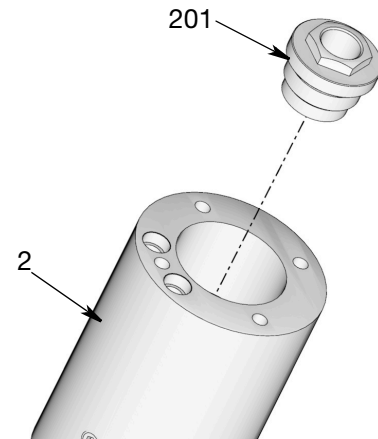

FIG. 34
22. Remove the piston seal (214) from the piston (213), and discard the piston seal (214) and pins (217). New replacement parts are included in the kit.
23. Visually inspect the rod sections and the inside surface of the pump cylinder (204) to verify they are not bent or damaged following disassembly. A pump with bent or damaged parts will not hold pressure or operate efficiently.
24. Separate the spacer cylinder (205) from the pump adapter (2) using a strap wrench to loosen cylinder. When the cylinder (205) is loose, use your hands to unscrew and remove it from the pump.
25. Remove the gasket seal (206) from inside the pump adapter (2), if it did not come out with the spacer cylinder (205). Discard the gasket seal. Use the gasket seal included in the kit for reassembly.
26. Use a socket to loosen and remove the hex nut (201) from the pump adapter (2) (FIG. 34).